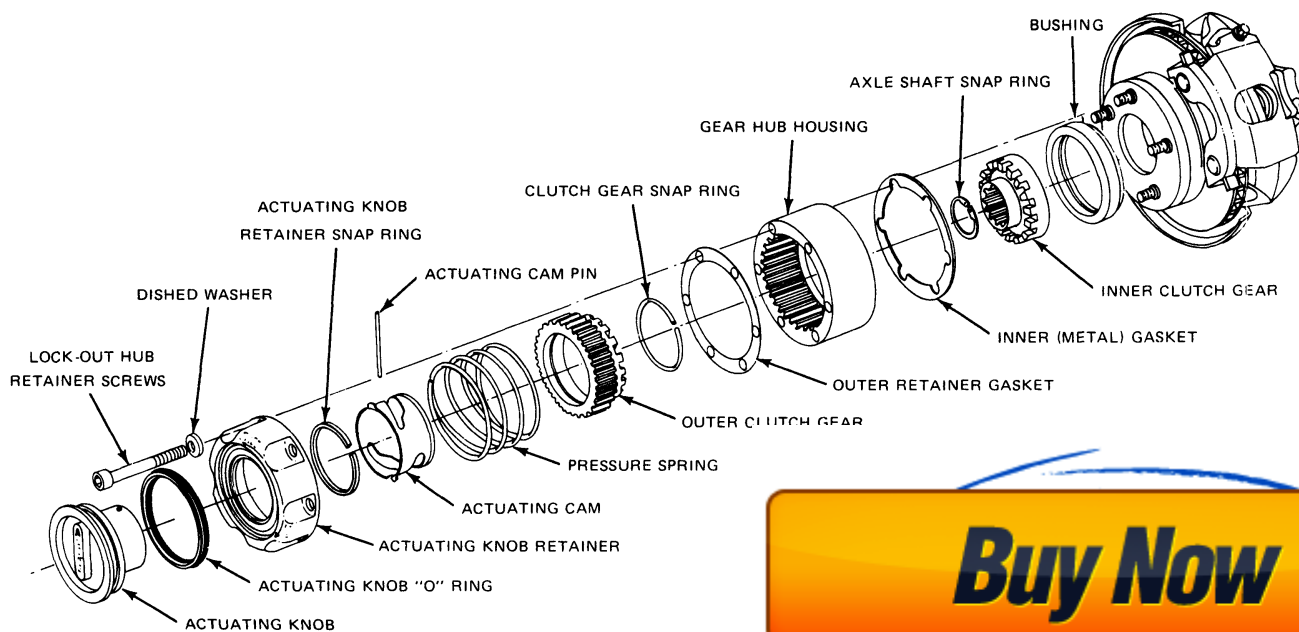

FIG. 15 Free-Running Hub—External-Type (F-250-3500 lb. Axles)
1. Remove the free-running hub screws and washers (Fig. 15).